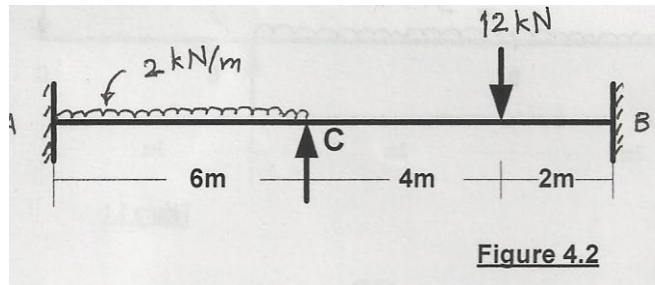

Figure 4.2
Q. No. 4 a) Analyze the prop cantilever beam of span 7m subjected to u.d.l. of 10kN/m throughout the span. Also draw S.F.D. and B.M.D. (8)
b) Analyze the beam loaded and supported as shown in Figure 4.2. Plot S.F.D. and B.M.D. Use Three Moment Theorem. (8)